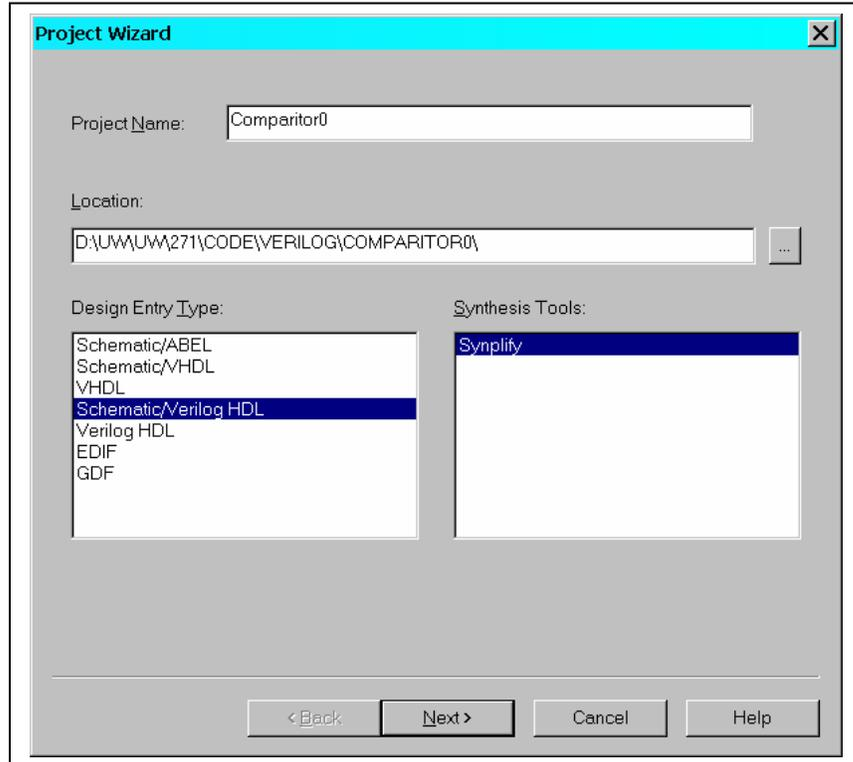

Figure 2.
4. Give the project a title by selecting the *Project Name* block of the Project Wizard window as shown in Figure 2. Enter “Comparator0”.
5. Give the project a location by selecting the *Location* block of the Project Wizard window as shown in Figure 2. Enter or browse to the desired location. Click **Next**.